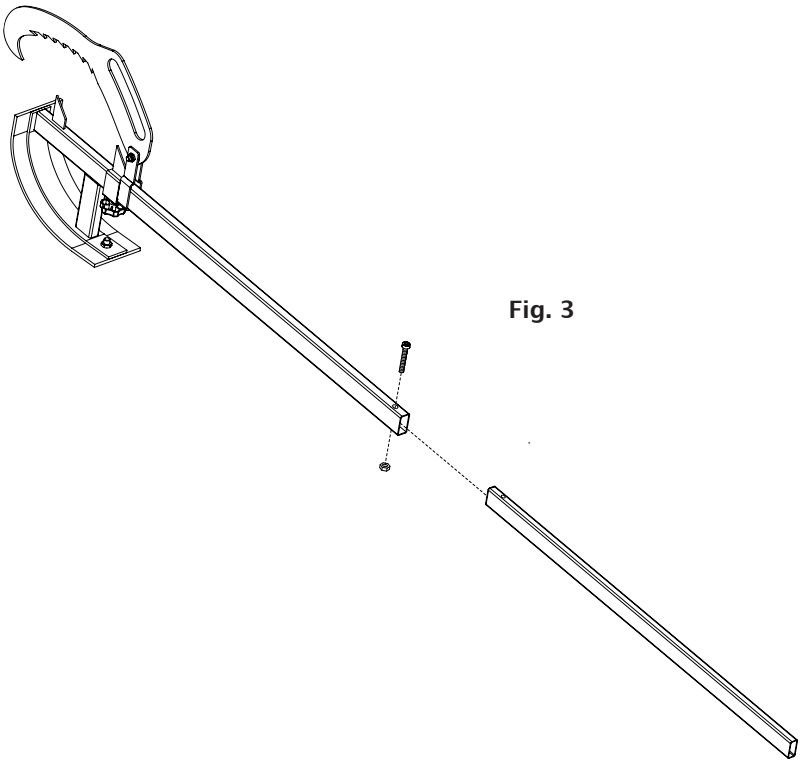

Fig. 3
- Slide the extending frame (12) inside the lower frame (1-4) so that the two holes align and fasten with the M8 x 45 bolt (13) and the M8 nut (11). Repeat this for both jacks (Fig. 3).
- Push the handle forwards toward the log by up to 45° so that the hooks automatically adjust to the size of the log. The hooks should reach further over the log and the collars that attach the hooks to the frame will drop lower down the frame to adjust to the diameter of the log. For large logs, you want the bottom spike of the frame to be in contact with the middle of the log, so that you can roll the log by itself first and then use the feet of the frame. This method gives you maximum leverage (Fig. 3).